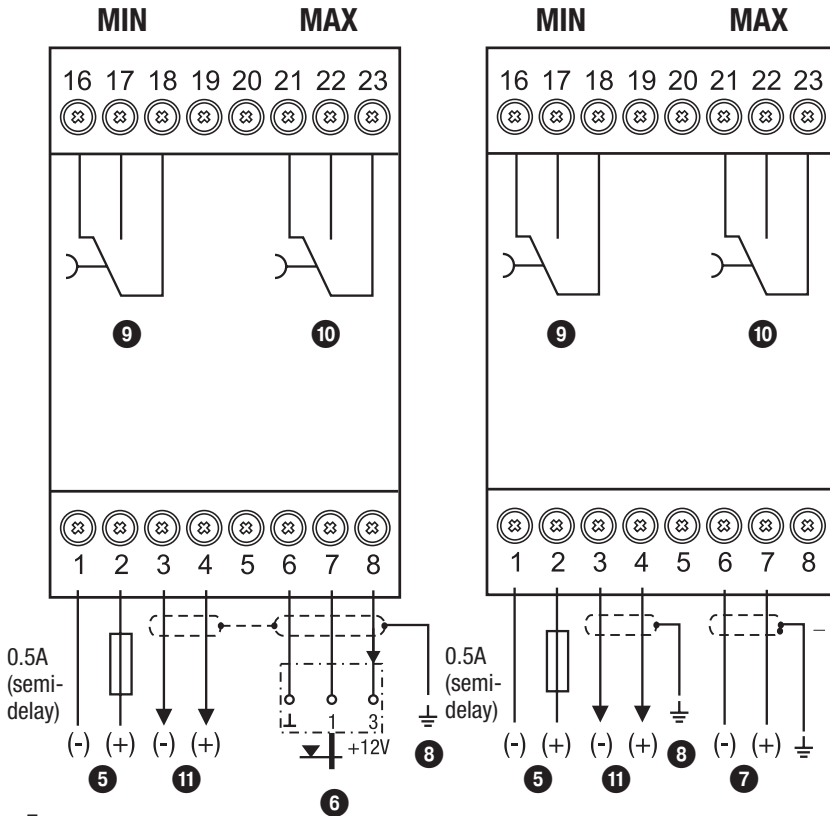

Fig. 5
■ Remove the **lower** terminal strip. **Fig. 5**